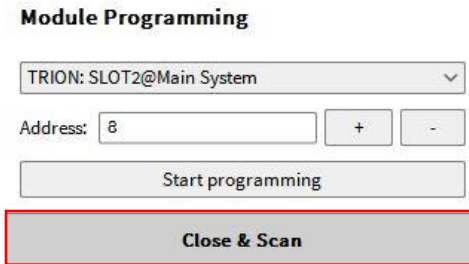

Figure 2-30: Finish the module programming
- Keep the ID button of the DAQP/HSI module pressed until the *Address* increases. Repeat that procedure for all DAQP modules. After finished, press on *Stop programming* and close the window by pressing *Close & Scan* (see Figure 2-30) or start the programming for a further Serial Port